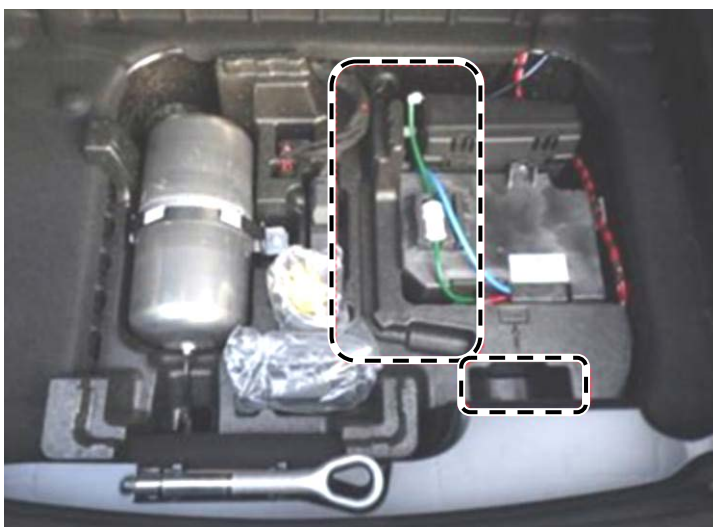

Figure 2
- 1.1. Check whether socket wrench and wheel wrench **are** present (figure 2).